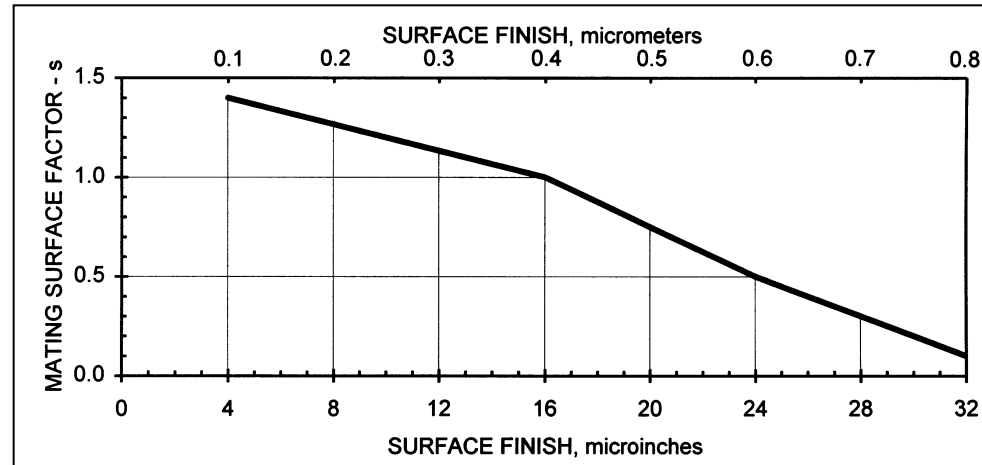

Figure 5-5. DX Mating Surface Factor – s
- $s$  = mating surface factor, Figure 5-5
DX bearings may be used with all conventional shaft materials. A ground finish of better than 16 microinches (0.4 micrometers) is recommended. Hardening of steel shafts is not essential unless abrasive dirt is present, in which case a shaft hardness of at least Rc40 is recommended. Figure 5-5 shows the relationship of application factor, *s*, for various surface finishes.